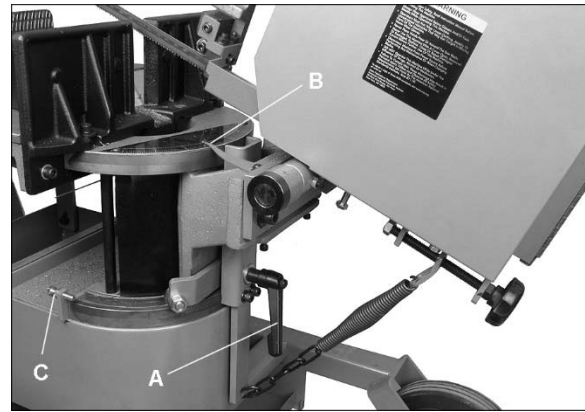

Figure 7-1
The plastic handles for swivel (A, Figure 7-1) and blade guide arm positioning are adjustable to prevent obstruction of other parts. Pull out on handle and rotate it on pin, then release it, allowing it to resettle on pin.
2. Loosen handle (A, Figure 7-1) and rotate bow to desired angle on scale (B).
4. Verify accuracy of 45-degree left and right stop screws (C). Adjust if needed.
5. Tighten handle (A) before operating saw.